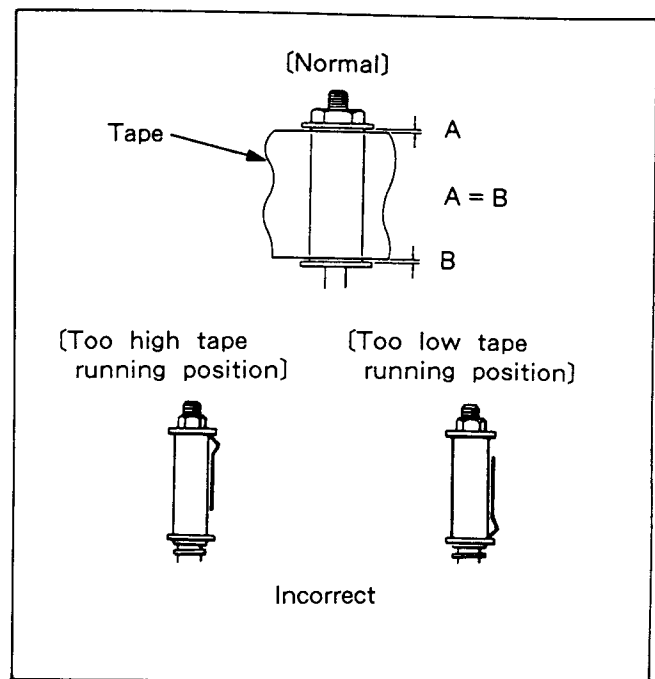

Fig. 5-4-2. (1) Pre-set for Fixed Guide
(1) Fixed Guides (See Fig. 5-4-2.)